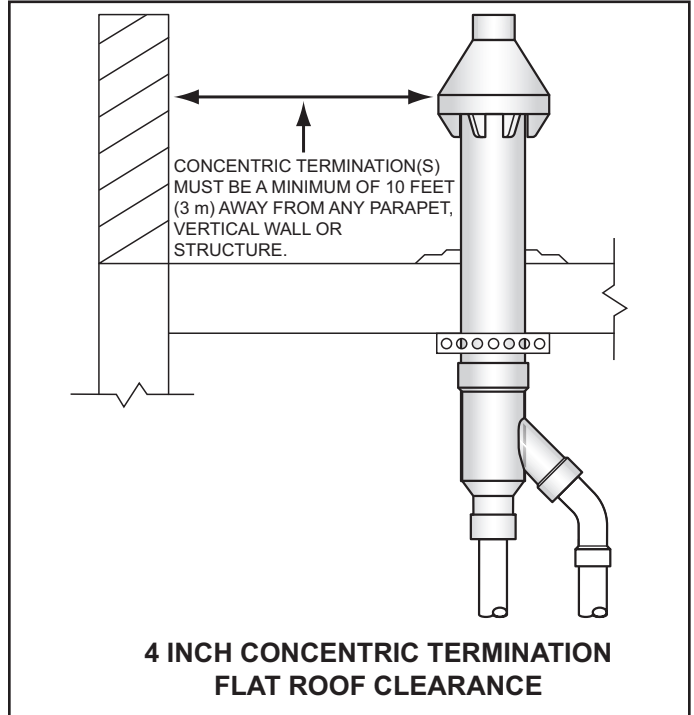

Figure 24
4. When installing a concentric termination vertically through a flat roof, the termination's vent cap must be a minimum of 10 feet (3 m) away from any parapet, vertical wall or structure as shown in Figure 24 and Figure 25.